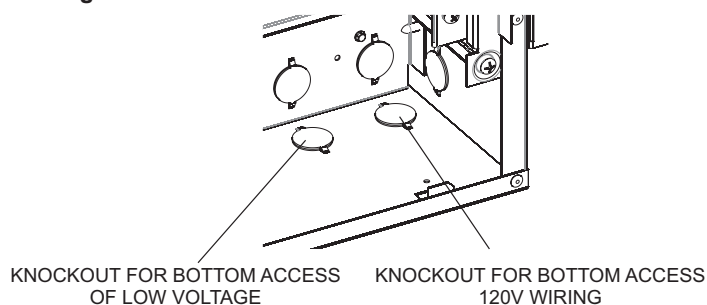

Figure 26
- Remove the knockout required for electrical installation. **See Figure 17, 26 and 27** to determine which knockout that best meets your needs. Leave other knockouts closed. **See Figures 26 and 27.**